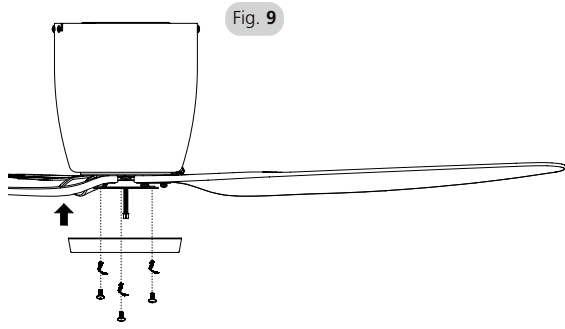
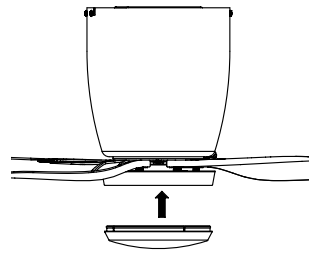
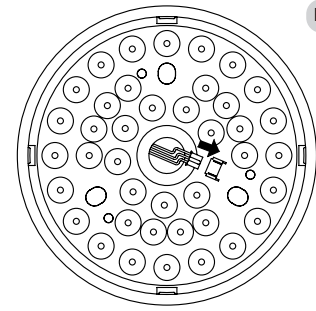

Fig. 9
Fig. 10
Fig. 11
8. For models with LED light; Remove the 3 screws on the fitter plate below the blades. Connect the plug from the fan to the plug connector on the LED boards. Refer Fig. 11 Align the slotted holes on the light plate with the fitter plate, and attach with the 3 screws removed earlier. Refer Fig. 9 Install the light shade by aligning with the light plate, and gently press shade onto plate. Refer Fig. 10